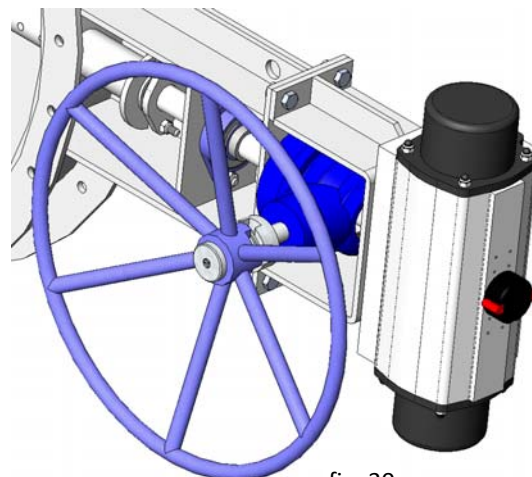

fig. 30
Emergency manual actuators (fig. 30)
- **Emergency manual actuator (handwheel/gears):** Allows manual operation of the damper butterfly in the event of power or air failure (fig. 30).